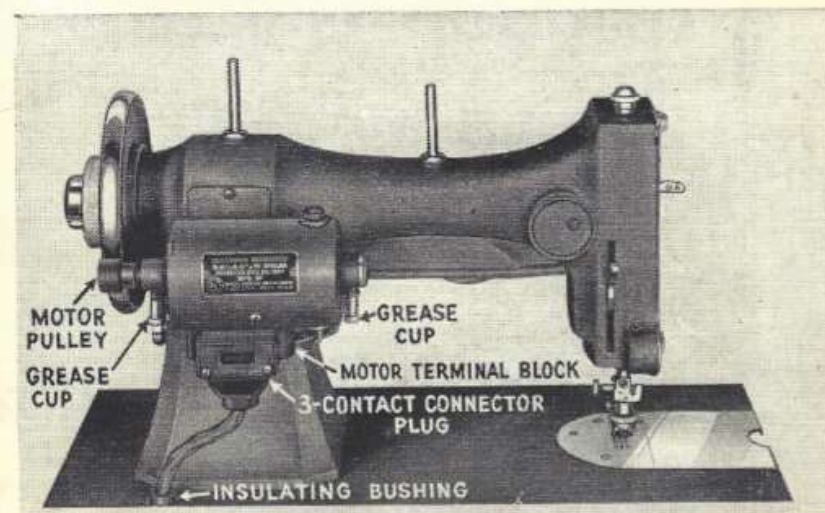

FIGURE 2
**LUBRICATION:** Two grease cups, one at each end of the motor shaft (Fig. 2), provide for motor lubrication. Unscrew the grease cups and fill with special motor lubricant or vaseline occasionally, depending upon use of the machine, or approximately every six months.
**PULLEY:** Be sure the motor pulley (Fig. 2) is adjusted so it centers on the disc wheel of machine.
**CONNECTIONS:** The insulating bushing on cord leading from rheostat inside cabinet must be snapped into the hole in the bed of machine (Fig. 2). **Next**, connect the three contact connector plug to motor terminal block, as shown in Fig. 2. Then connect the long wall plug cord to any 110 volt (A-C or D-C current) electrical outlet, and machine is ready for operation.